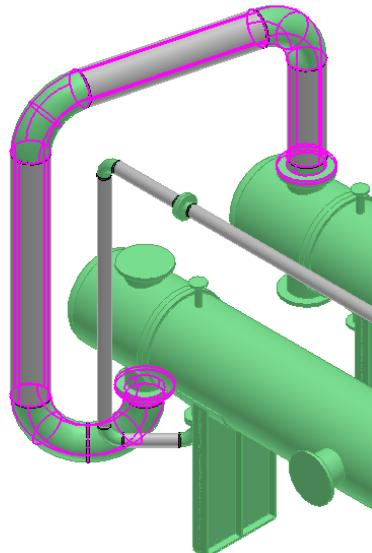

Figure 9: Pipeline 403-P
12. In the **Workspace Explorer** window, select the **System** tab to expand **A2>U04>Process** and select the pipeline system **403-P**. This will select the pipeline **403-P** in the graphic view, as shown in Figure 9.